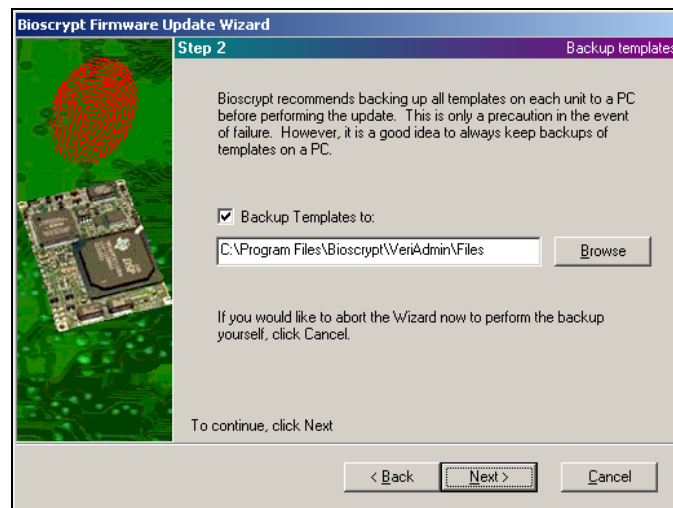

Figure 50: Firmware Update Wizard – Step 3
- **Step 2** of the wizard (see Figure 50) will optionally backup all templates to the PC. This option is only available when updating a single unit. If updating multiple units via a broadcast update, the user is responsible for template backup. By default, templates are copied into the "files" sub-directory of the directory where VeriAdmin was installed. A different directory may be specified however, and VeriAdmin will prompt to create it if it does not exist. It is generally a good idea to backup templates to the PC before performing an update. However this step can be time consuming on slower networks.